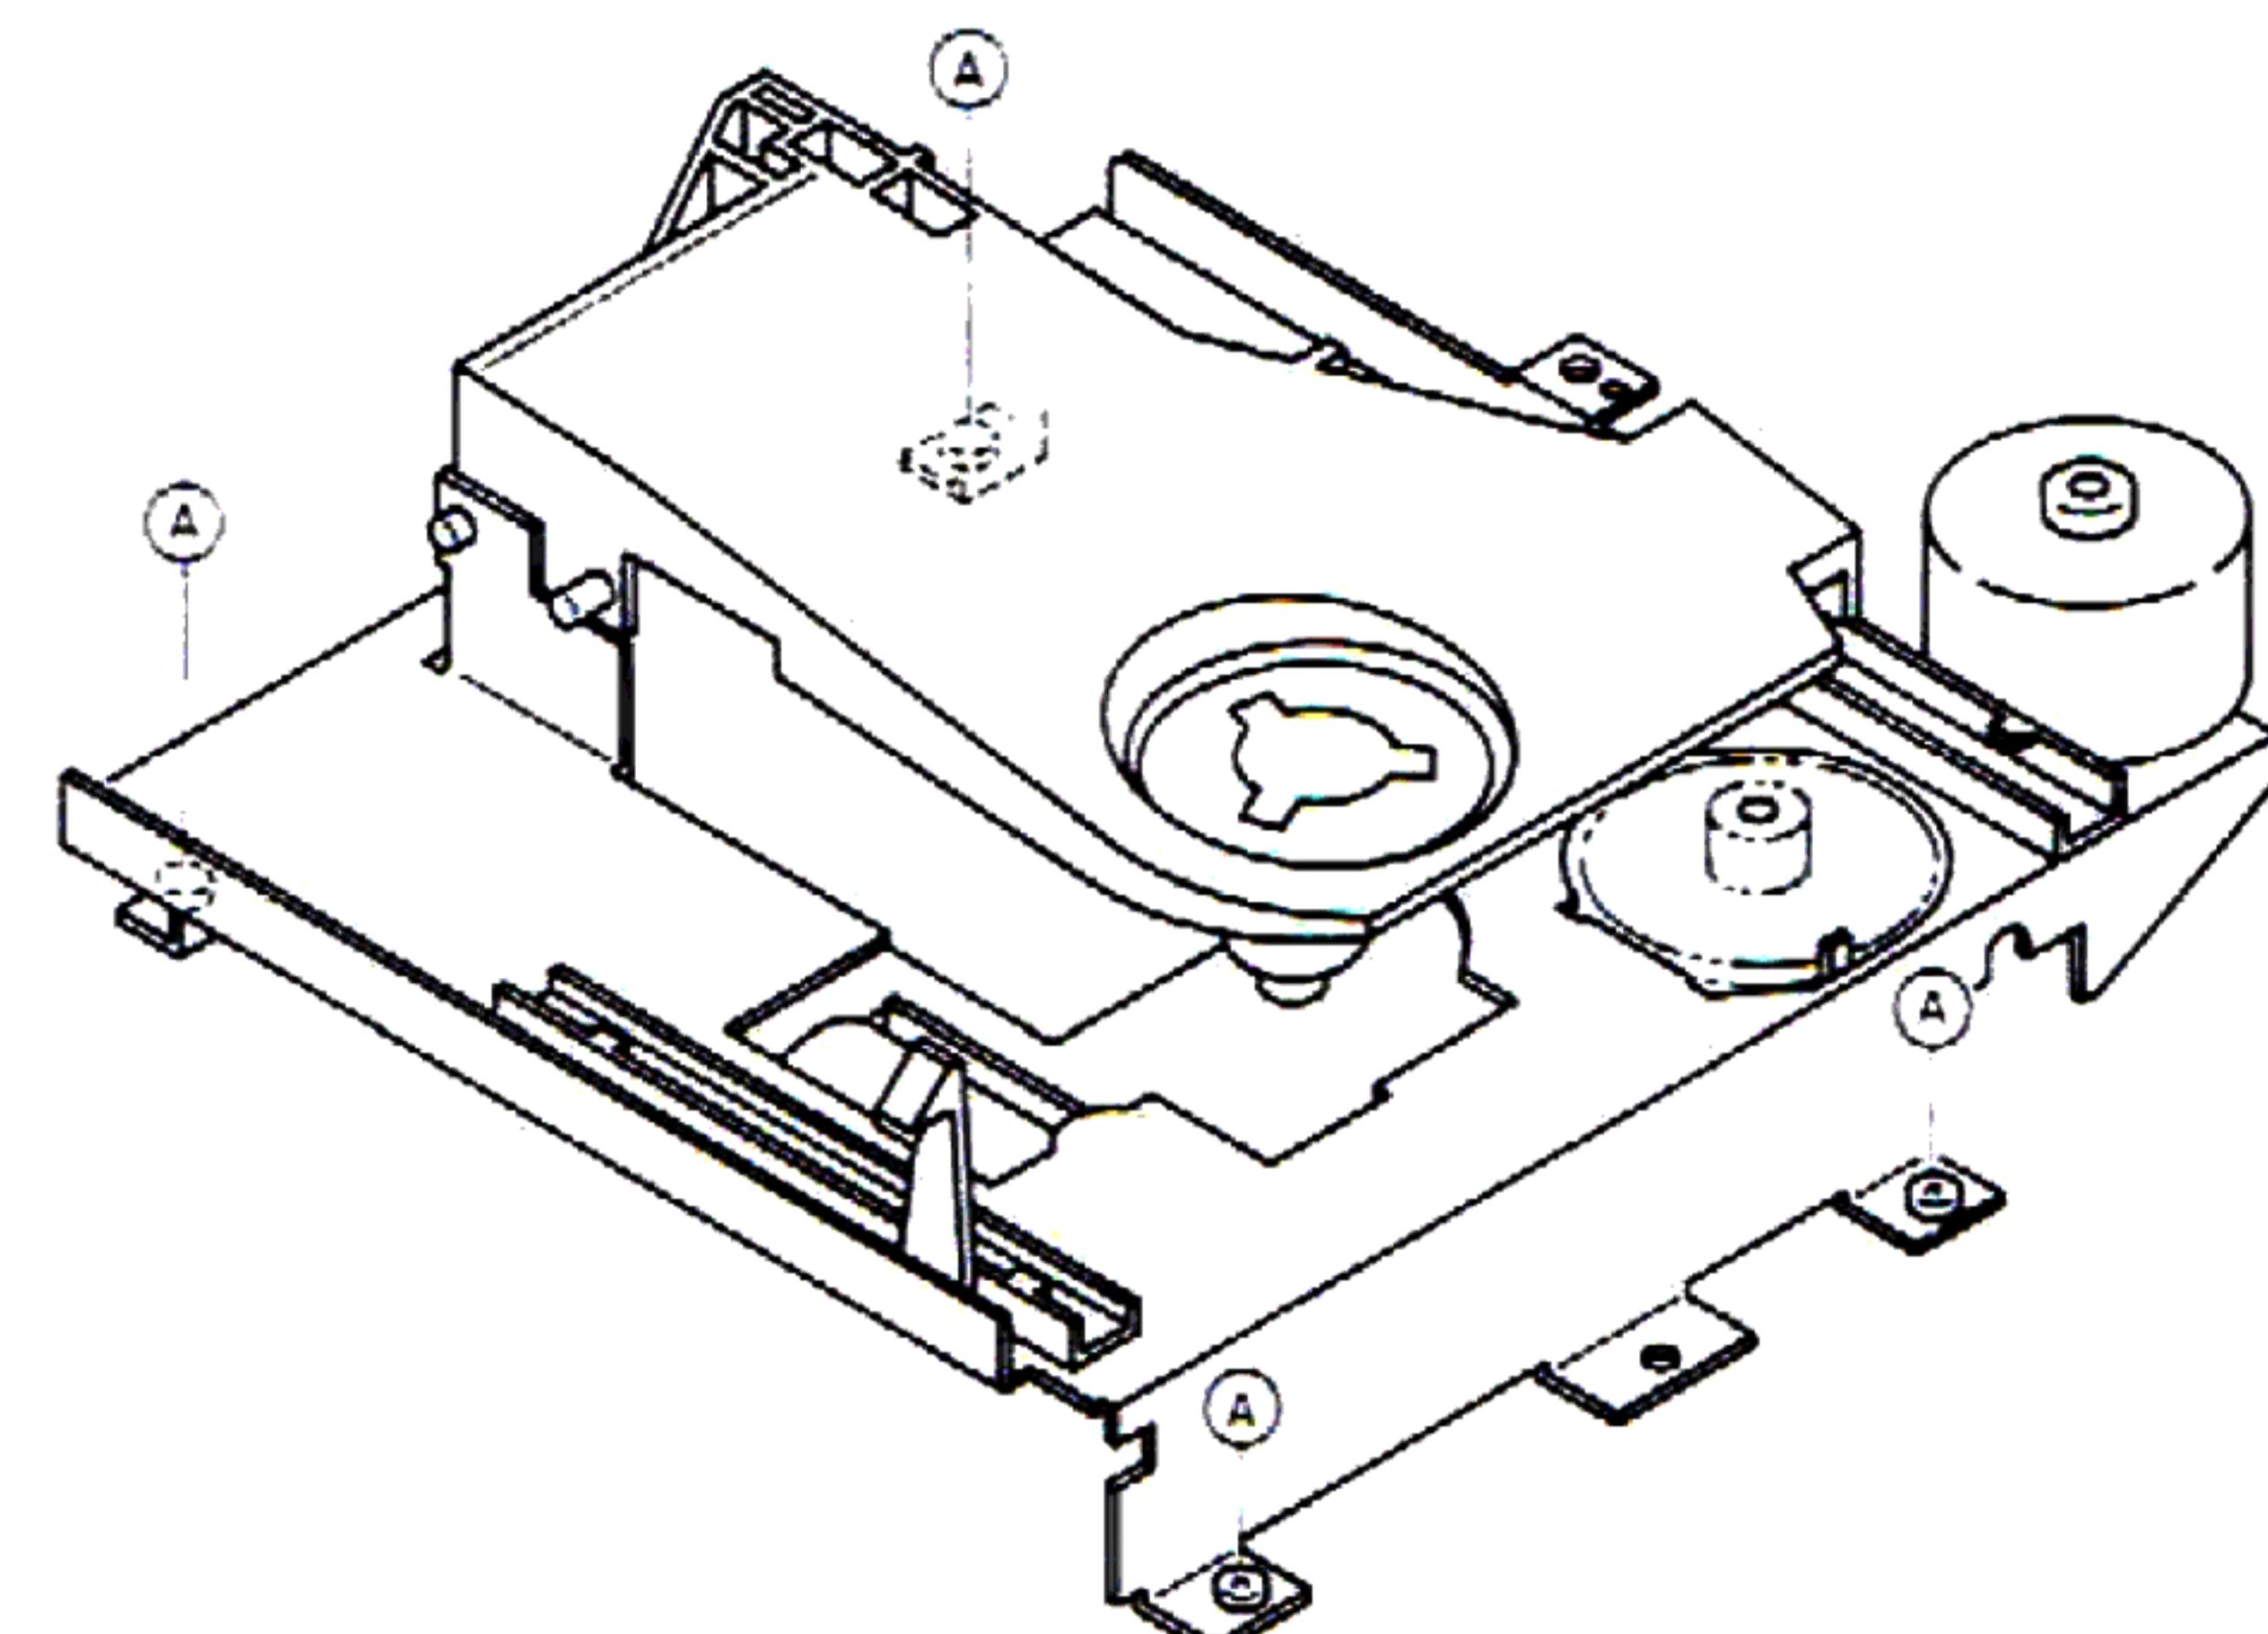

Fig. 4-2
- 2) Remove four Mecha chassis fixing screws **(A)**. (Refer to Fig. 4-2)